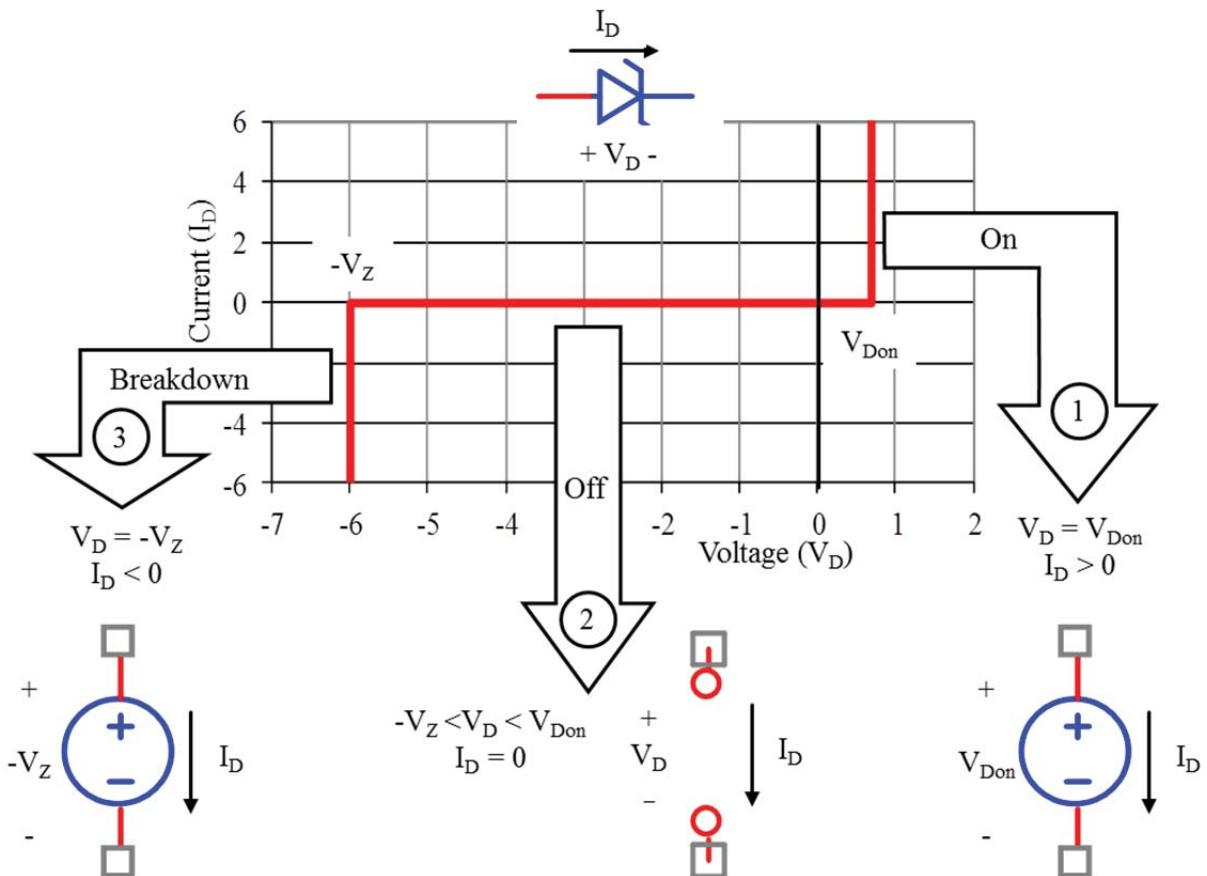
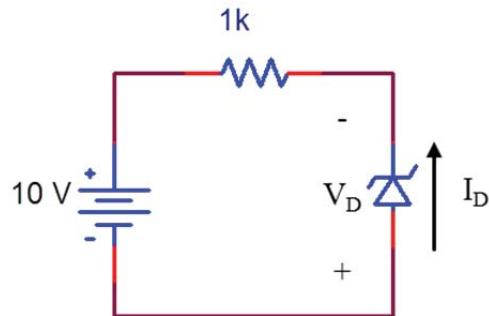

Figure 8.18: Large signal model of a Zener diode showing the (1) on, (2) off, and (3) breakdown regimes and their models
Figure 8.20: Example zener diode circuit
Figure 8.18 shows the I-V curve for an example large signal model of a Zener diode. In the (1) ON regime, the Zener diode operates in the same fashion as a regular diode, i.e. $V_D=V_{Don}$ and $I_D>0$. In this regime the model for the diode is a DC voltage source with a value of V_{Don} . In the (2) OFF regime, the Zener diode also operates in the same fashion as a regular diode, i.e. $I_D=0$. However, the OFF regime is limited to when V_D is greater than $-V_Z$ and less than V_{Don} , $-V_Z < V_D < V_{Don}$. The model for the Zener diode in this regime is an open circuit. For the (3) BREAKDOWN regime, the Zener diode conduct current in the negative direction, i.e. $I_D<0$ and the voltage across the Zener is $-V_Z$. In this regime we use another DC voltage source where $V_D=-V_Z$.
Consider the circuit shown in Figure 8.20. Again, we will assume that $V_{D\text{on}} = 0.7 \text{ V}$ and $V_Z = 9 \text{ V}$. Pay attention to the direction of I_D and the polarity of V_D . The direction of I_D and the polarity of V_D are pre-defined by the diode I-V characteristics (see Figure 8.18). This diode appears to be reverse biased so perhaps the diode is operating in the OFF regime. Under this assumption $I_D=0$ and we need to check that $-9 < V_D < 0.7$.
This time let's assume that the Zener diode in the circuit shown in Figure 8.20 is operating in Breakdown. In Breakdown we model the Zener with a DC voltage source with a value of $-V_Z$ which in this case is -9 V. We need to check that $I_D < 0$. Our KVL equation 8.10 is still valid under this new assumption so we can use that equation to solve for I_D .